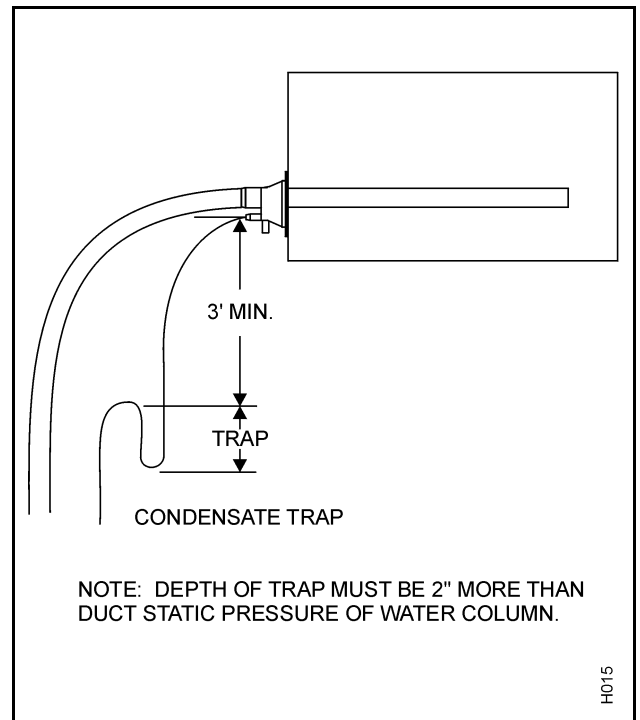

Figure 9. Trap To Prevent Steam In Condensate Line
see Fig 9 for proper P Trap design and installation
- (1) Each steam distributor has a built-in condensate return. (See Figure 9.) Flexible condensate return hose (available from NORTEC) is recommended for routing condensate back into the humidifier's fill cup, or to a drain. A short length of d" OD copper tubing is supplied by NORTEC when routing condensate hose back to the fill cup. Similarly, a short length of d" condensate hose is supplied to serve as a flexible coupling with field-supplied copper condensate line. Long condensate runs should be drained to a floor drain to prevent excessive condensate water from entering the cylinder.